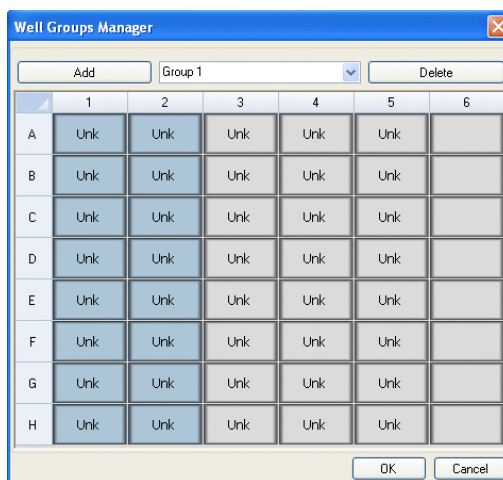

Figure 33. Color of wells in the Well Group Manager window.
3. Select the wells that will compose the well group in the plate view by clicking and dragging across the group of wells. Selected wells turn blue in color (Figure 33).